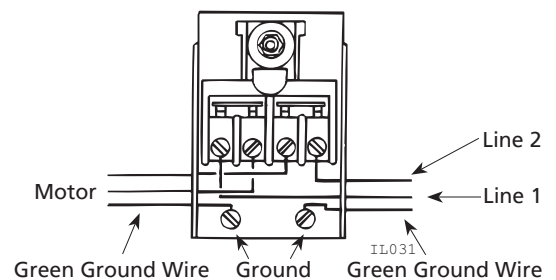

Figure 26 - Pressure Switch Wiring Diagram
3. Connect ground wire first. Connect to ground first, then to green grounding terminal provided on pressure switch (See Figure 26) identified as GRD. Ground connection MUST be made to this terminal. **Do not** connect motor to electrical power supply until unit is permanently grounded; otherwise serious or fatal electrical shock hazard may be caused.
2. Insert motor wires through side hole of pressure switch and attach to the two inside flag terminals marked "load" (See Figure 26).